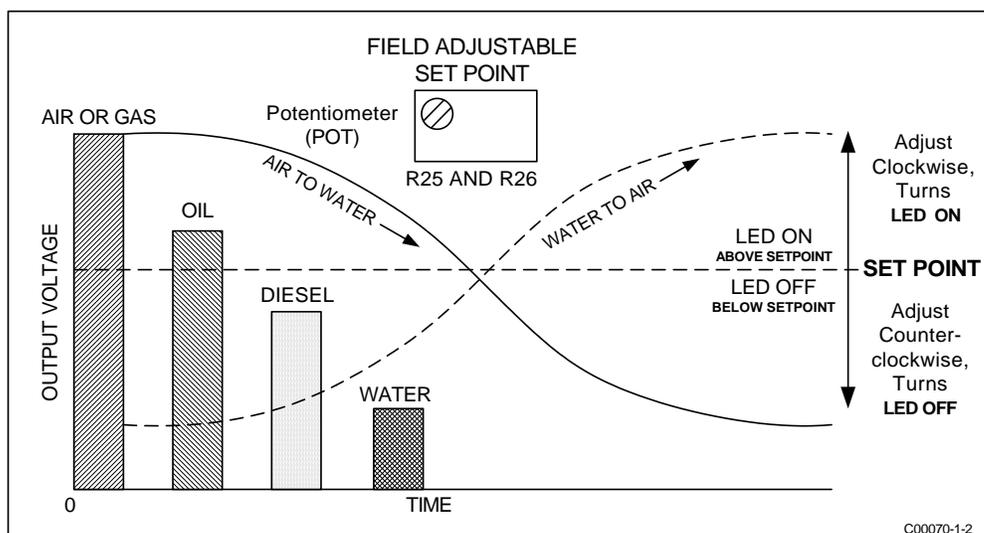

Figure 18 – Level Application Signal Output
**Note:** The output signal at P1 is relative to the type of process media detected. See Figure 18.
The output signal at P1 is lowest in water and highest in air. See Figure 18.